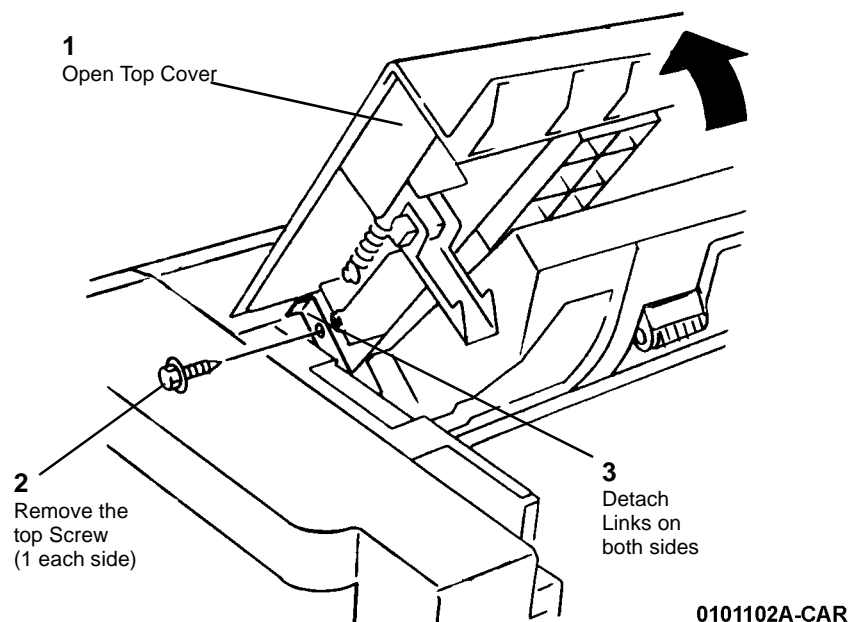

Figure 1 Detaching the Links from Top Cover Assembly
1. Remove the Links from the Top Cover Assembly (Figure 1).